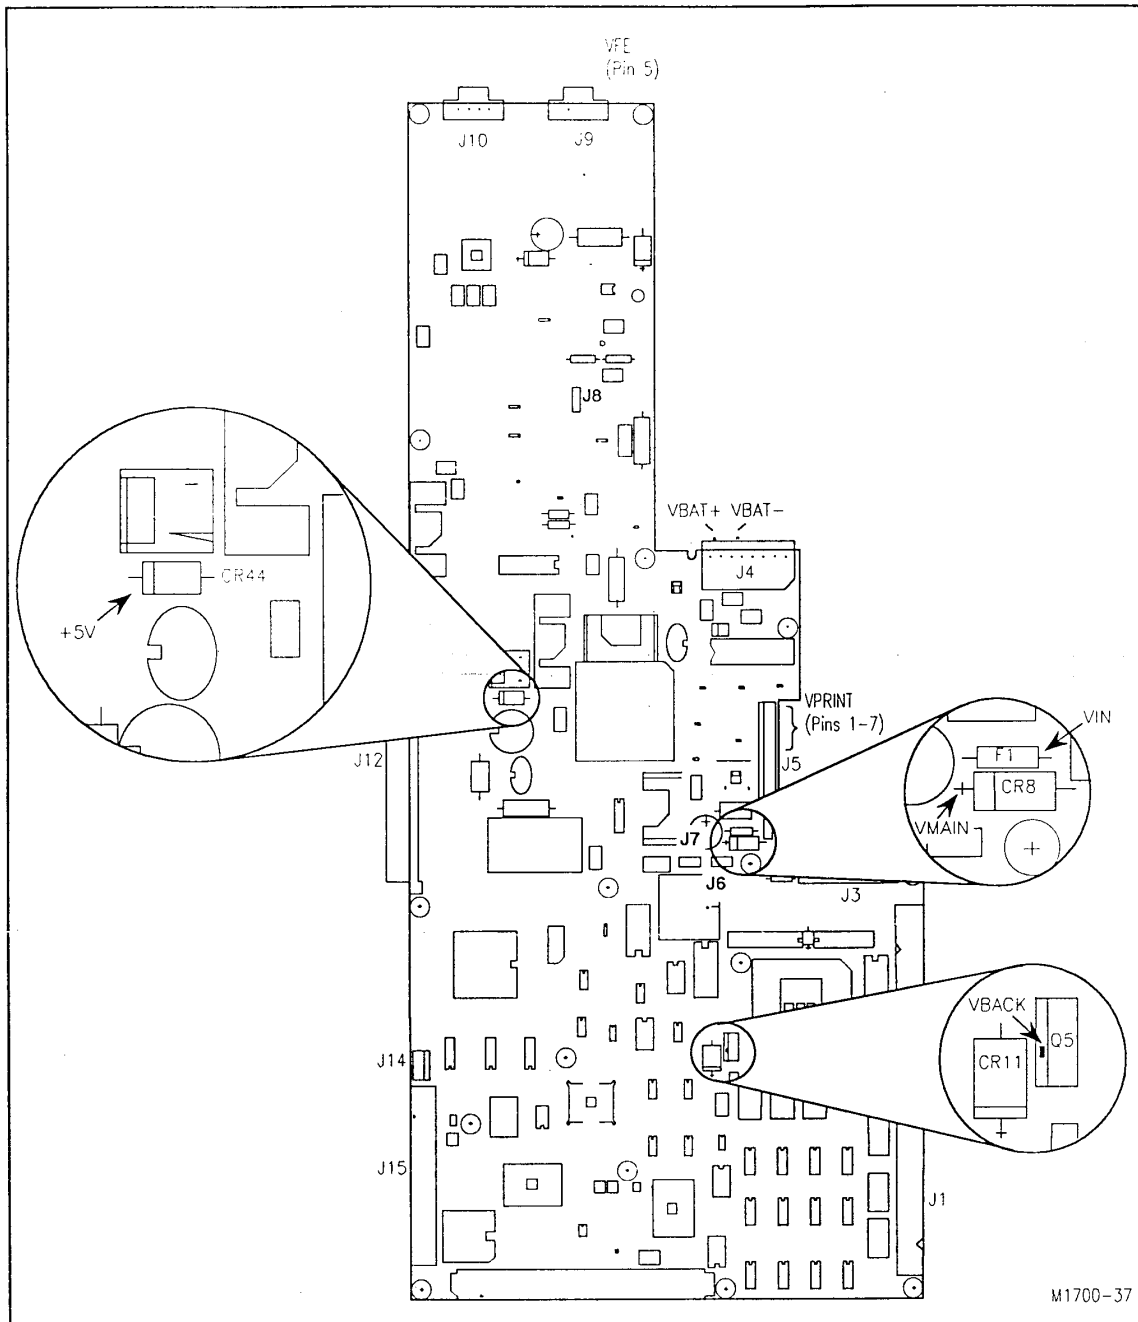

Figure 6-3. Voltage Test Locations.
Use this procedure to check the voltages produced by the power supply. The cardiograph must be connected to AC power to test all the power supply voltages. All the voltage measurements are taken with respect to ground. Refer to Figure 6-3 for voltage test point locations.
5. Measure VBACK through the opening in the shield at the tab on transistor Q5 (see Figure 6-3). It should read +5 V DC. Its presence confirms the proper operation of the backup 5 volt supply.